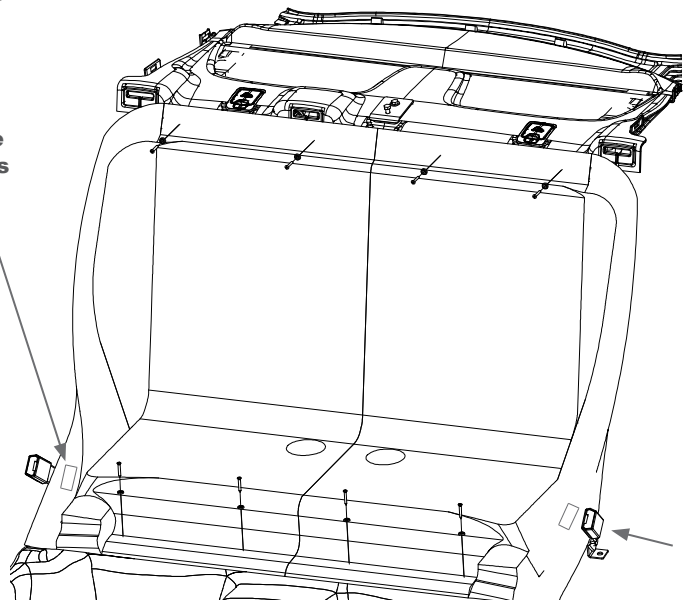

Fig. 7
G. After the seat has been cutout, then place the seat inside the vehicle. Place the seat onto rear seat area while feeding the lower buckles through the cutouts in the seat. Push the seat all the way toward the back of the vehicle and all the way up against the rear deck to the proper position. With the seat held in position, install the top four (3X77) screws and (3X78) finish washers through the seat and into the vehicle sheet metal. Install the four lower screws and finish washers to secure the bottom of the seat as shown in Figure 7.